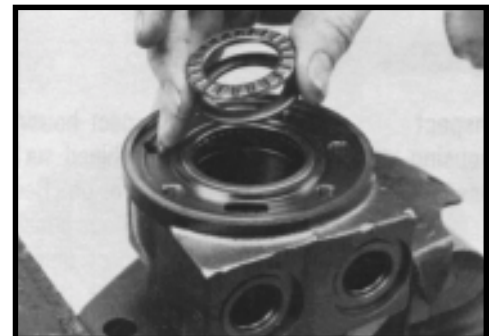

Figure 22
17. Remove thrust bearing (15) and thrust washer (14) if the unit is a Series TB or TE. Inspect for wear, brinelling, corrosion and a full complement of retained rollers. SEE FIGURE 22.